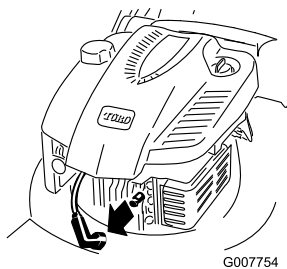

Figure 22
2. Disconnect the spark plug wire from the spark plug (Figure 22) before performing any maintenance procedure.